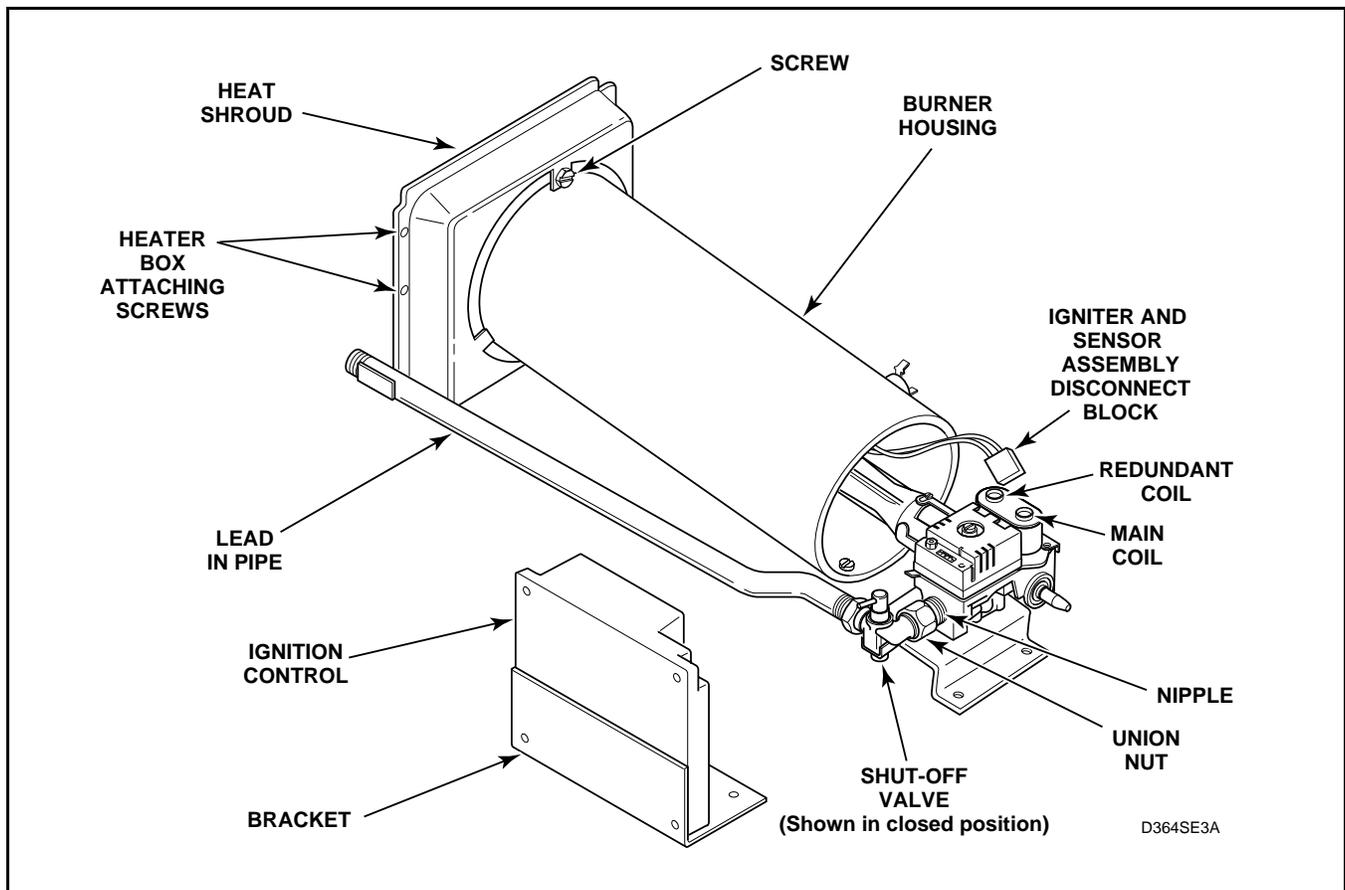

Figure 14
- (3.) Close main gas shut-off valve. Disconnect wire harness from igniter and sensor assembly, and from gas valve coils at the disconnect blocks. See *Figure 14*.
- (4.) Disconnect gas shut-off valve from gas valve at the union nut. See *Figure 14*.
- (5.) Remove three screws holding valve and mounting bracket to base. See *Figure 14*.
- (6.) Lift gas valve and mounting bracket from base. See *Figure 14*.
- (3.) Disconnect wire harness from igniter and sensor assembly. See *Figure 14*.
- (4.) Remove screw holding igniter and sensor assembly to burner housing. See *Figure 14*.
- c. Disconnect wire harness from igniter and sensor assembly, and from gas valve coils at the disconnect blocks. See *Figure 14*.
- e. Gently move burner tube toward rear of dryer to disengage tab from slot on left side of burner housing. See *Figure 14*.
- h. Remove screw holding burner housing to heat shroud. See *Figure 14*.